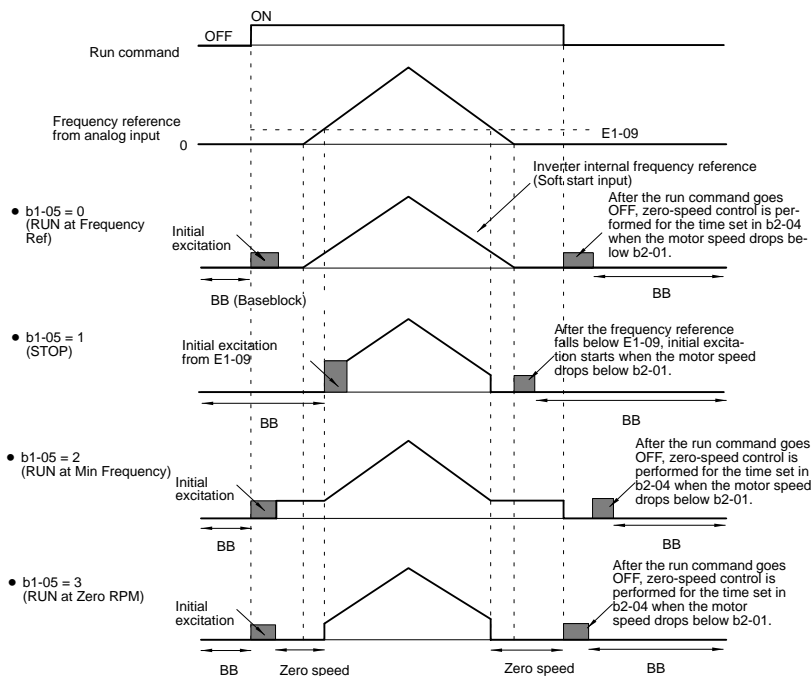

Fig 6.10 Settings for Initial Excitation and Zero-speed Control
- The timing of the initial excitation function depends on the zero-speed operation method selected in b1-05 (zero-speed operation), as shown in Figure 6.10.